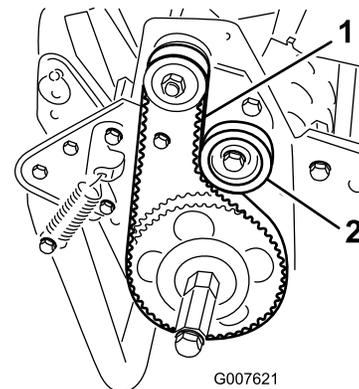

Figure 37
2. Check the tension by pressing the belt at mid span of the pulleys (Figure 37) with 4 to 5 lbs (18–22 N) of force. The belt should deflect 1/4 inch (6 mm).
- A. Loosen the idler pulley mounting nut and pivot the idler pulley clockwise against the backside of the belt until the desired belt tension is attained (Figure 37).